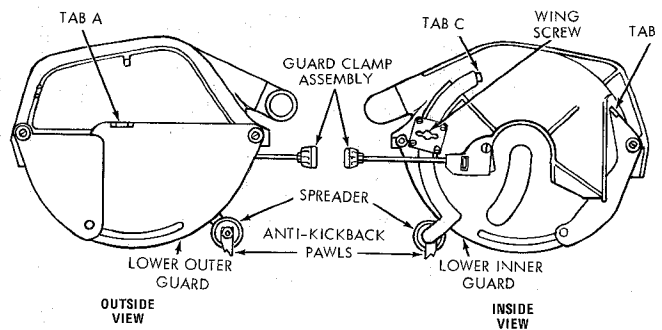

Figure 49
- e. The lift-tabs (A and B, figure 49) on the guard assembly are provided for use under certain conditions. In order to prevent the inner or outer lower guards from binding (**with power off**), lift lower guards with tabs (A or B, figure 49) while lowering the saw blade to the table in a bevel position.
- a. Loosen the wing screw and with tab (C, figure 49) position the anti-kickback and spreader assembly to near the bottom of the blade. Tighten the wing screw.
- h. Loosen the wing screw (figure 49) and with tab "C" position the anti-kickback and spreader assembly until the groove on the spreader is even with the top surface of the workpiece. (See figure 52). Tighten the wing screw.
- i. Before making the cut, check the effectiveness of the anti-kickback pawls by sliding the workpiece under the pawls in the direction of feed and then attempting to slide it in the reverse direction — the direction of kickback. If the pawls do not catch, readjust with wing screw and tab "C" (figure 49).